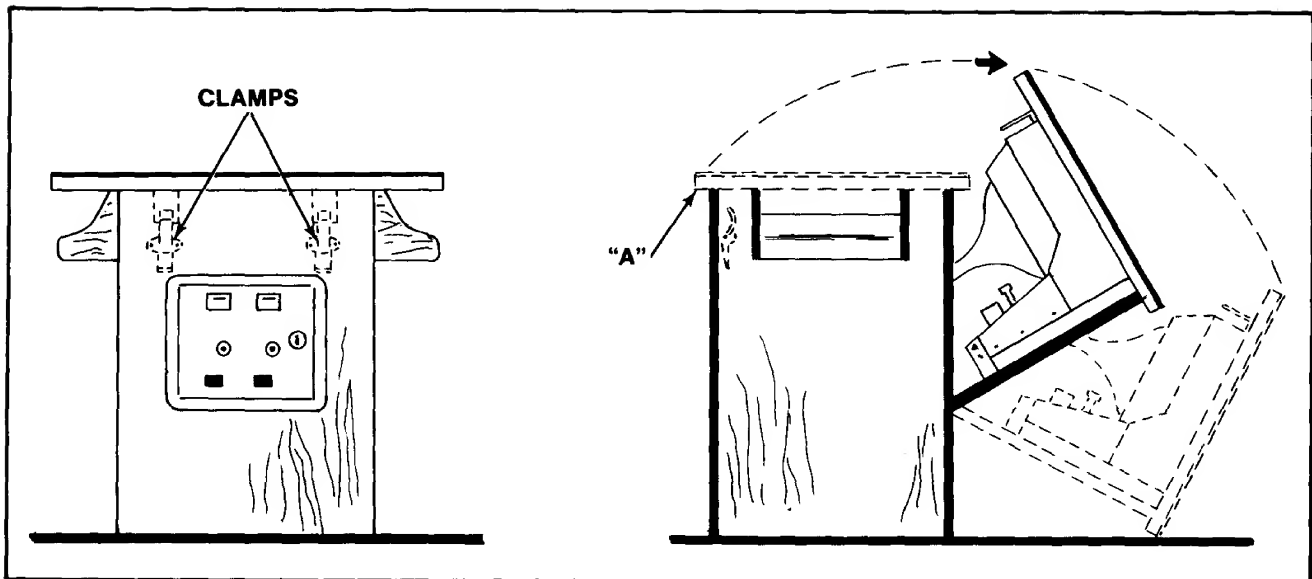

Figure 4-10 Opening the Cocktail Game
Open the coin box door and release the two latches indicated in Figure 4-10.
- ☐ Grasp the table top at "A" and open it as indicated in Figure 4-10.